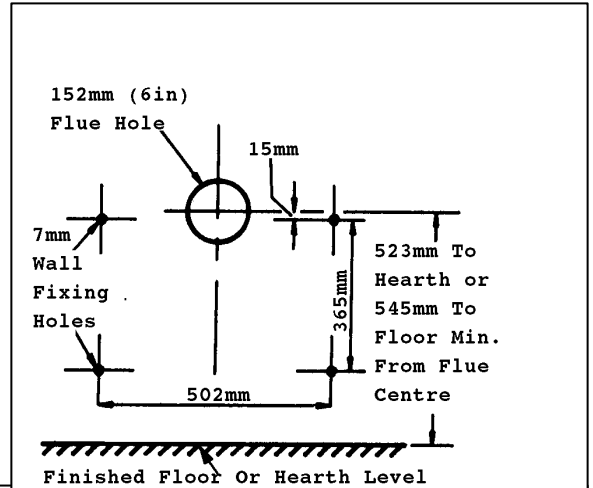

Fig. 4 Wall Drilling
Before cutting the hole in the wall make sure that the height to the top surface of the finished floor is known. The minimum acceptable height from this surface to the flue hole centre is shown in figure 4. If a loose hearth or plinth is to be used, the height from its top surface must be used when determining the minimum flue height. Where installation is to a timber frame wall, the appliance should be positioned so that the right side wall fixings are into timber studs to absorb any pressure generated by operating the control knob.
**5.2** Place the template against the wall. Make sure that the centre of the flue hole is not less than the minimum shown in figure 4.